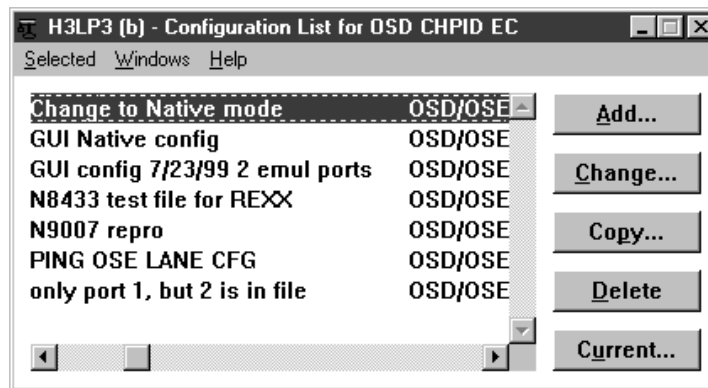

Figure 78. Configuration List and Available Options
3. Click on **Selected** on the menu bar and then select **Configurations**, followed by **Configuration List**. A window similar to the one in Figure 78 appears. If you are setting up the OSA for the first time, no entries are listed. Click on **Add**.